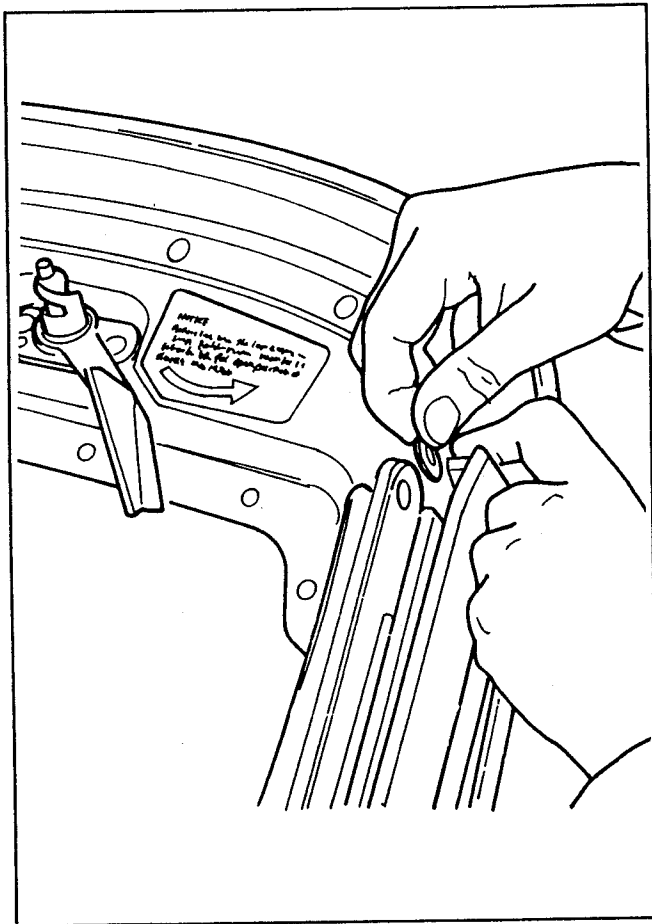

Figure 44. Shim Front Horizontal Weatherstrip
4. Reapply 3M Adhesive 08011, or equivalent, and install the required number of shims behind the weatherstrip (Fig. 44).